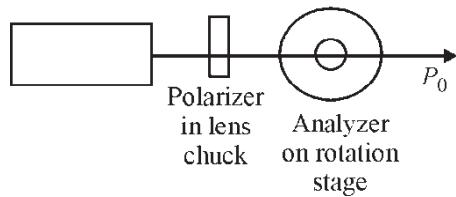
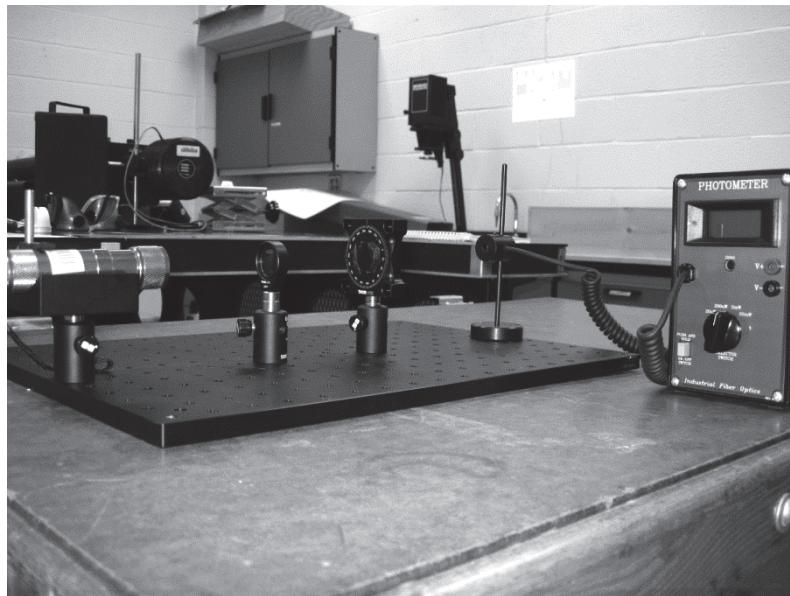

Figure 46 – Polarizer/Analyzer Set-up
Figure 47 – Polarizer/Analyzer Set-up
2. This lab will make use of polarizing filter (LI-7). When both of them are used in line with one another, with the same light beam traveling through them, the first polarizer polarizes the light, and the second one is considered an analyzer. Refer to Figure 46 and Figure 47.